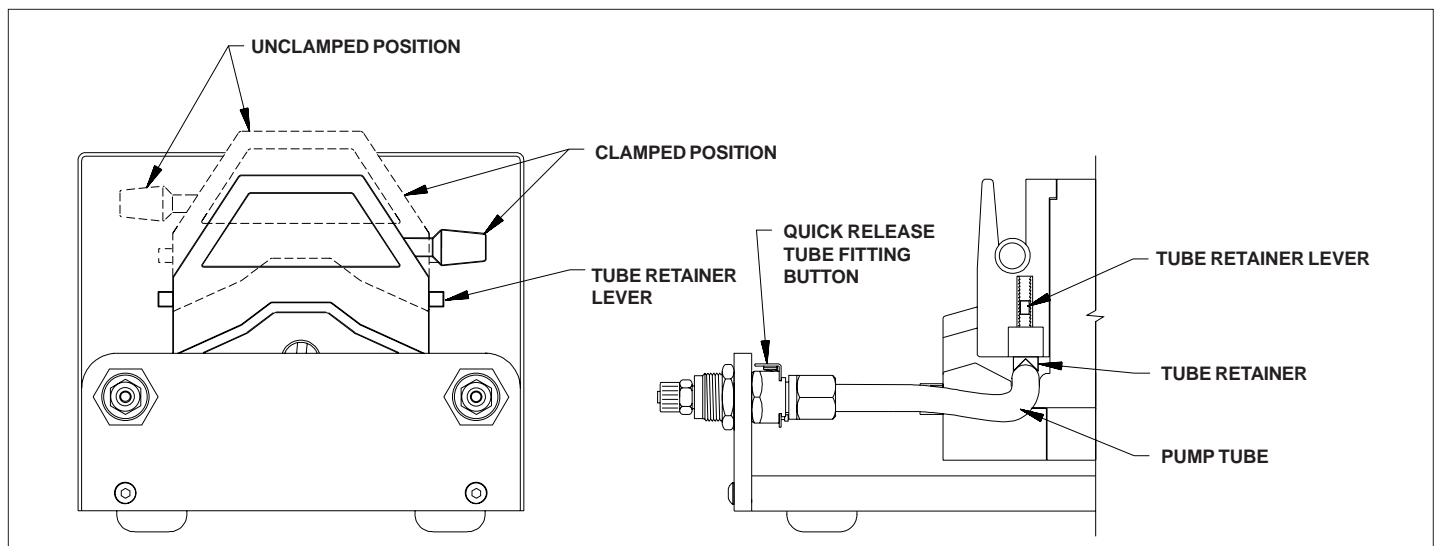

FIGURE 14
- 2 - Rotate the lever on the Pump Head to the left (CCW) to un-clamp the tube (See Figure 14).